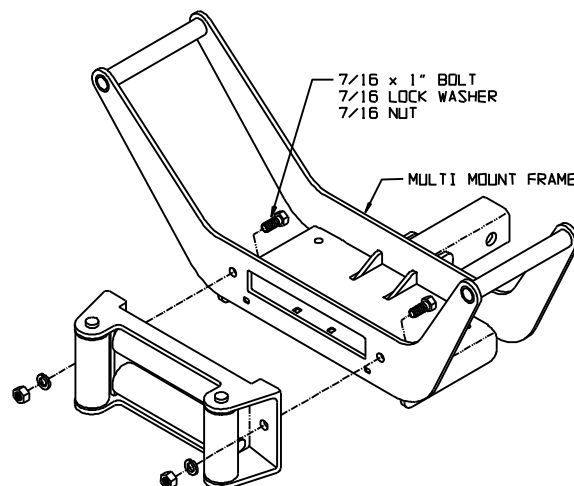

Figure 3
3. Install the fairlead on the front of the Multi-Mount Frame. **See Figure 3**